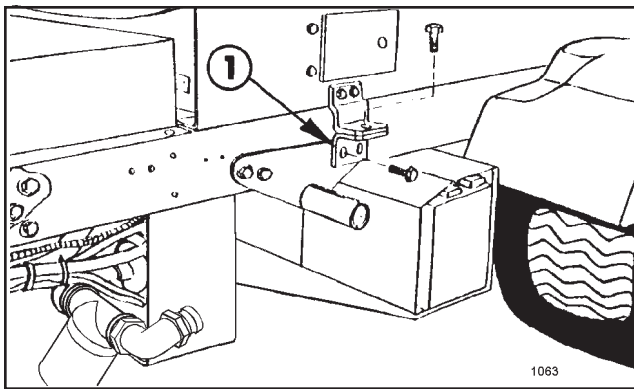

FIG. 11
13. Locate and remove the (2) 1/2" bolts on each side of the vehicle frame and install the Attachment Mounting Bracket using the bolts earlier removed. Re-tighten the nuts and bolts securely (FIG. 11).